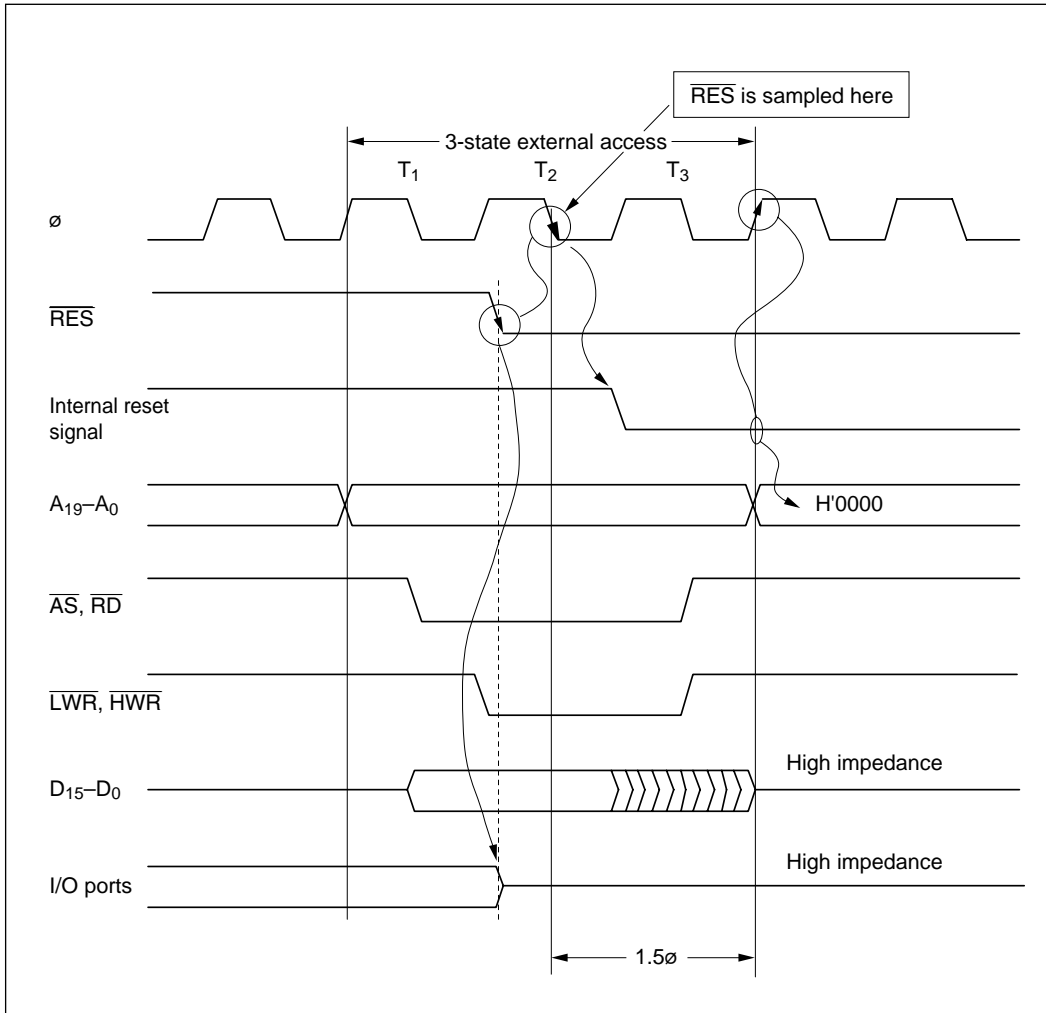

Figure G-3 Reset during Three-State Access (Modes 3 and 5)
(3) **Modes 3 and 5:** Figure G-3 is a timing diagram for the case in which $\overline{\text{RES}}$ goes low during three-state access in mode 3 or 5. As soon as $\overline{\text{RES}}$ goes low, all ports are initialized to the input state. $\overline{\text{AS}}$, $\overline{\text{RD}}$, $\overline{\text{LWR}}$, and $\overline{\text{HWR}}$ go high, and D_{15} to D_0 go to the high-impedance state. A_{19} to A_0 are initialized to the low state 1.5 system clock cycles (1.5ϕ) after the low level of $\overline{\text{RES}}$ is sampled.